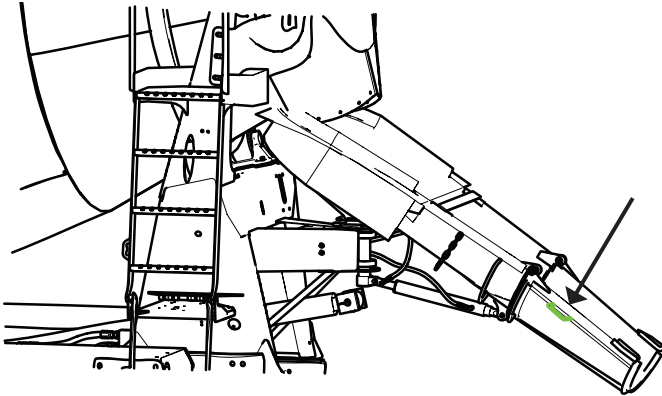

Figure 116
3. Slowly lower the chute into operation position (Figure 116).
1. Grip the fold-over chute using the correct hand-holds (Figure 116).